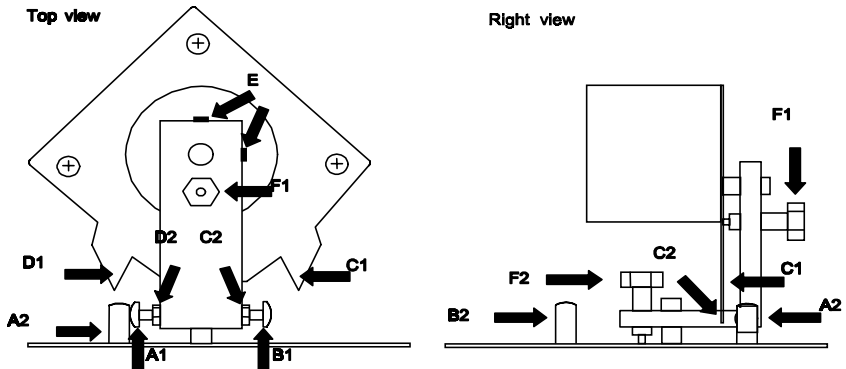

Figure 2
2. Use the controller to move the mirror to the extreme left position, thus positioning screw A1 in figure 2 at the upper mechanical stop (A2).
2. Use the controller to move the mirror to the upper-left position until the top mechanical stop (C1 in figure 2) is positioned at the edge of the mirror bracket (C2).
3. Loosen the two allen-screws (E) holding the motor axle while taking care that the motor does not slide vertically from its current position.